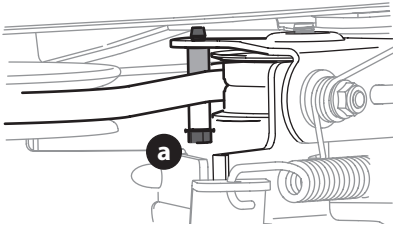

Figure 36
- Remove the belt keeper (30" decks only) by removing the hex bolt (a) that secures it (Figure 36).